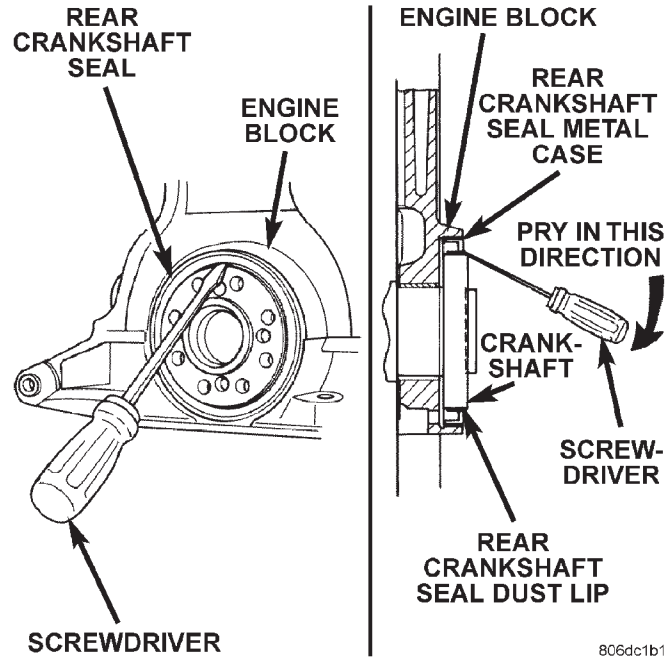

Fig. 78 Rear Crankshaft Oil Seal—Removal
(1) Insert a 3/16 flat bladed screwdriver between the dust lip and the metal case of the crankshaft seal. Angle the screwdriver (Fig. 78) through the dust lip against metal case of the seal. Pry out seal.